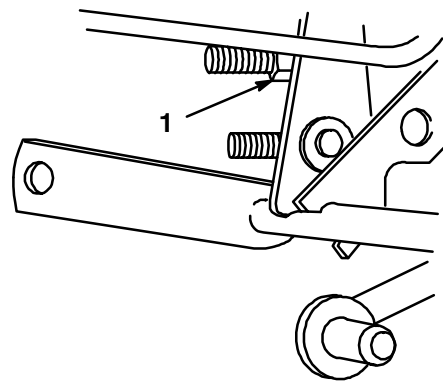

Figure 8
1. Adjust by turning transport height nut, (Fig. 8) on lift mechanism, clockwise to raise or counterclockwise to lower mower.